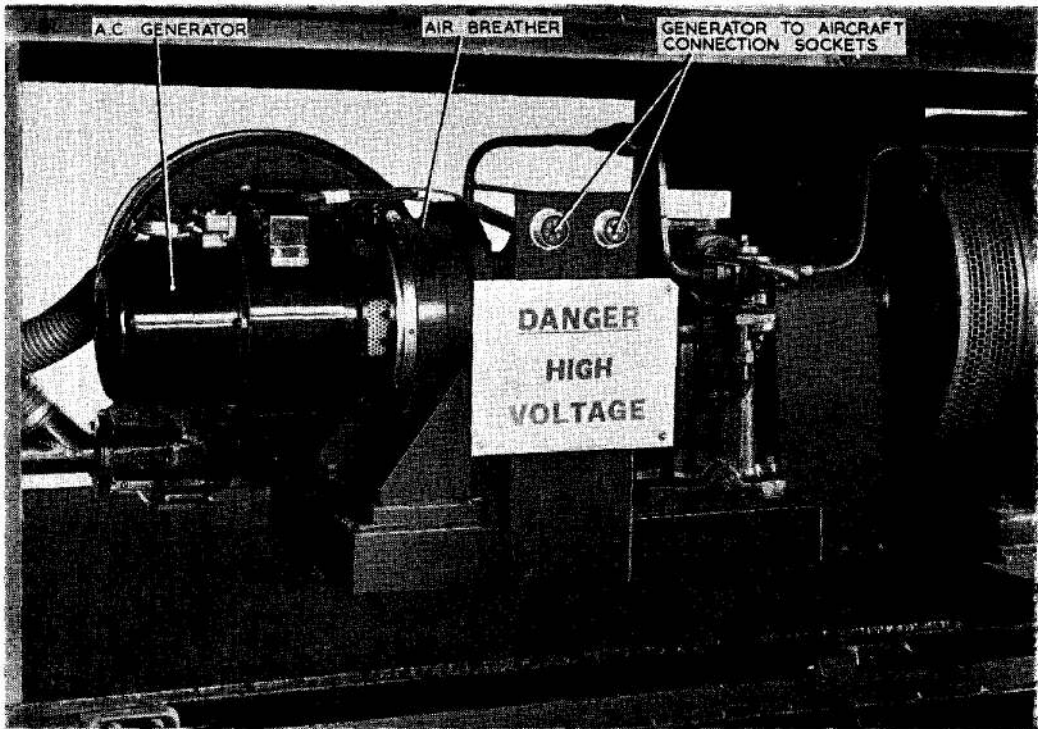
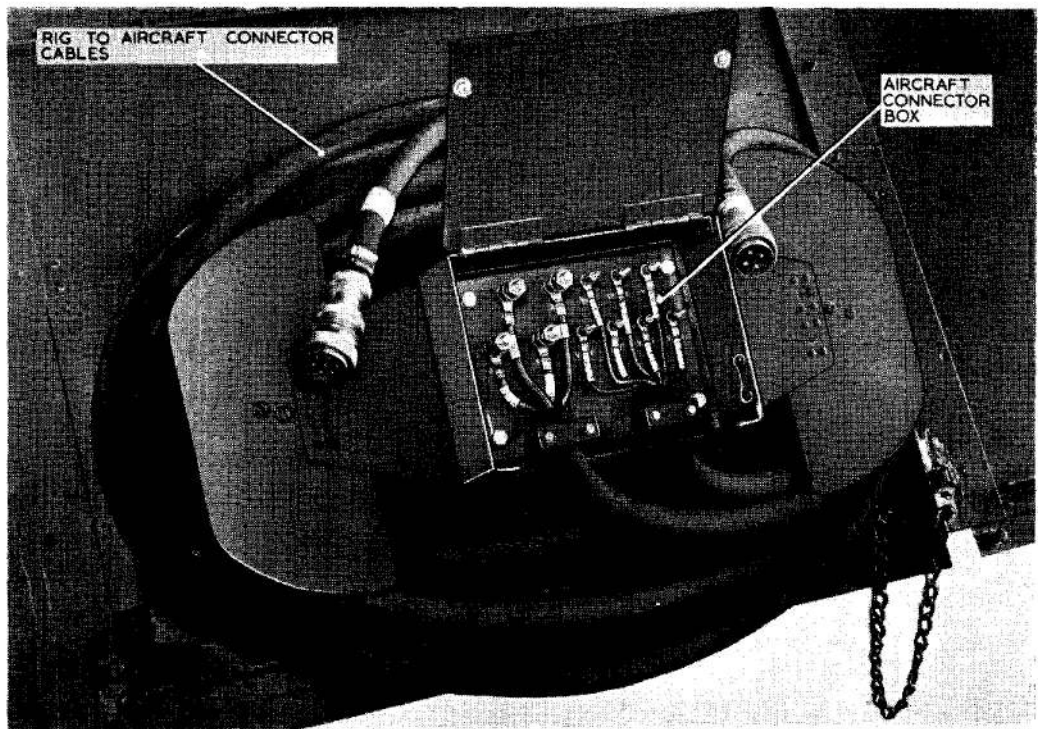

Fig. 5. A.C. generator type 162
Fig. 6. Rig to aircraft connections
14. The a.c. generator Type 162 (fig. 5) is mounted on a bracket located at the aft end of the trolley and is driven through the gear-box by the drive motor. Connections to the generator are brought out to two multi-pole sockets which are also shown in fig. 5. Complete information on the generator Type 162 is contained in A.P.4343A, Vol. 1, Sect. 2.
15. One four core and one seven core cable together with a connector box (fig. 6) are located on the trolley side-cover adjacent to the a.c. generator. Plugs attached to the ends of the cables, when connected to the sockets (fig. 5), complete connections between the generator output terminals and field system to the aircraft connector box.
(2) Insert the end of the air hose into the duct at the base of the aircraft fin.
(3) Open the side-panels on both sides of the trolley.
(4) Complete the connections between the trolley and the aircraft by removing the aircraft connector box (fig. 6) and making the connections into the aircraft power supply system.
(5) Depress the START button on the blower motor starter and start the drive motor as described in para. 18.